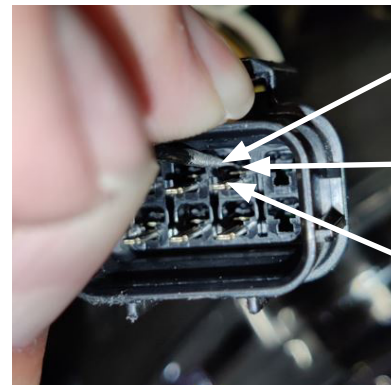

figure 37
38. On the inside of the 2 connectors, using the small pick, lift up the holding tab (figure 37) and the male pin terminal will slide out the back of the connectors (figure 38). Repeat until all pin terminals have been removed from the both connectors. Keep track of pin terminal locations.